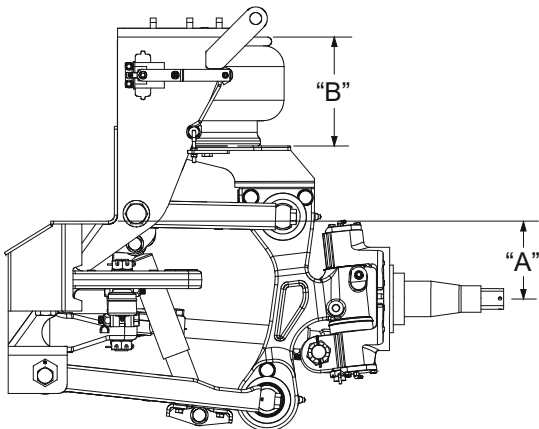

Figure 11 – Measurement at Ride Height
The ride height of the front suspension is the distance from the bottom of the chassis frame rail to the center of the wheel spindle. An alternate measurement may be taken as the height of the air spring (See Figure 11).
4. Measure either the wheel center to bottom of frame ("A") or air spring height ("B"). If the dimensions are not within  $\pm 1/8$ " of measurements in Figure 11, adjust as follows.